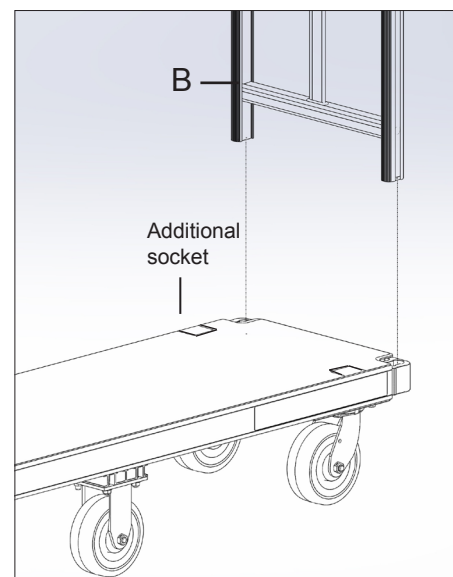

Figure 6
Note: If you have the soft drink model, you will only install 3 sets of hardware for each caster on the end of the deck with the additional end rack sockets as shown in Figure 6. All other casters use 4 sets of hardware. Extra hardware can be discarded.
3. Position the handle (B) as shown in Figure 6 and insert it into the sockets of the deck.